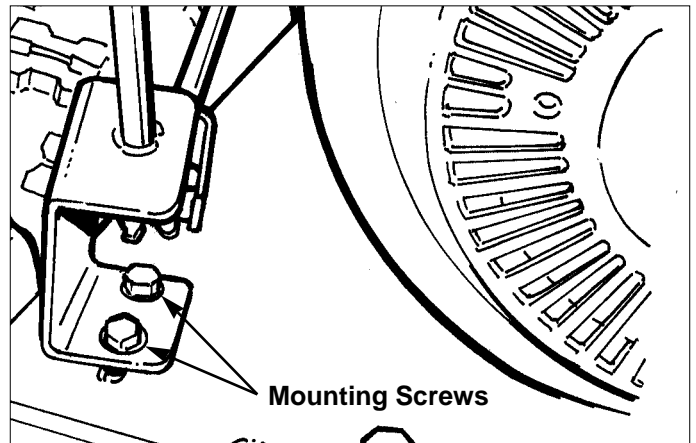

Figure 28. Chute Direction Control Gear Bracket Adjustment
1. Loosen the gear bracket mounting screws (Figure 28).